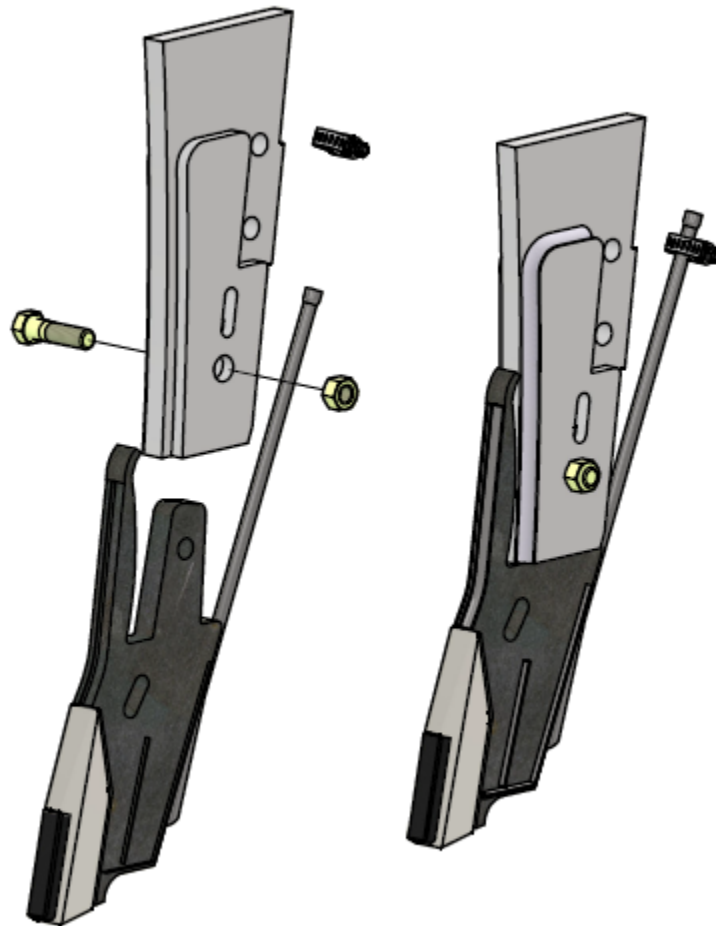

Figure 6: Liquid fertilizer knife installation
2. Insert the hex head bolt as shown in Figure 6